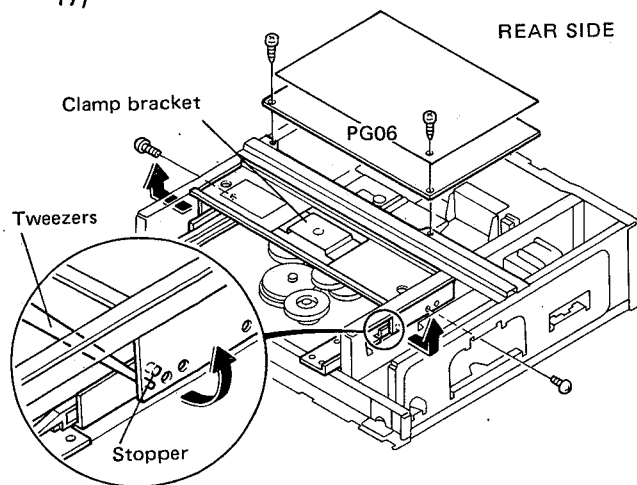

Fig. 17
4. Remove the fixing screws of the clamp bracket at both of its ends. (Fig. 17)
5. Force open the clamp bracket with a pointed instrument inserted between the clamp bracket (right side) and the mechanism chassis. Then, release the clamp bracket from a stopper (protrusion) of the mechanism chassis. (Fig. 17)
6. Force open the clamp bracket at its left side by hand, then release the clamp bracket from a stopper of the mechanism chassis, and detach it from the unit. (Fig. 17)